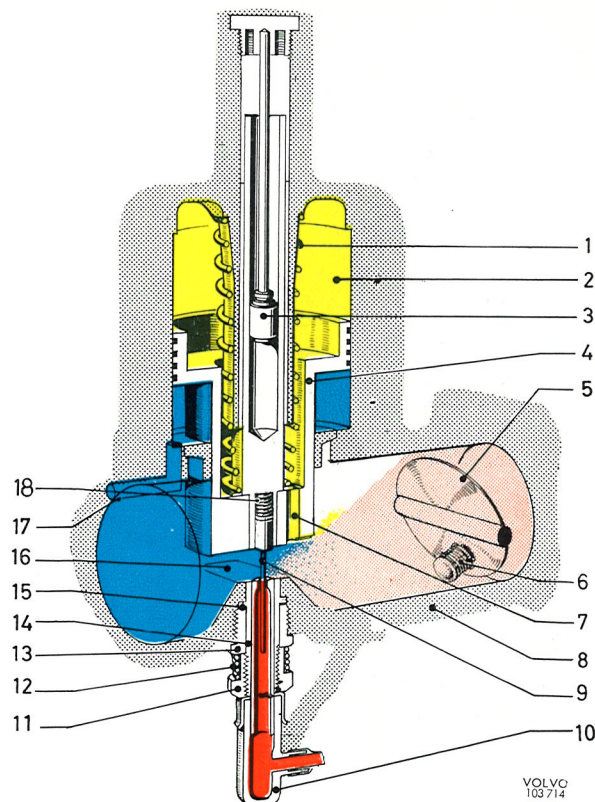

Fig. 2-82. Carburettor, function
The air flow passing through the carburetors when the engine is running increases in speed when it passes through the constriction known as the bridge (16, Fig. 2-82).
When the air valve (4, Fig. 2-82) lifts, the damper plunger (3) is forced against its seat and oil is prevented from flowing past the lower side of the damper plunger from the upper side, and this retards the movement of the valve (4). A more powerful vacuum is temporarily obtained above the jet so that the fuel-air mixture becomes for the moment richer.
The fuel/air mixture is adjusted with the adjusting nut (11, Fig. 2-82) at the jet and adjustment is carried out at idling speed to cover the entire speed range.